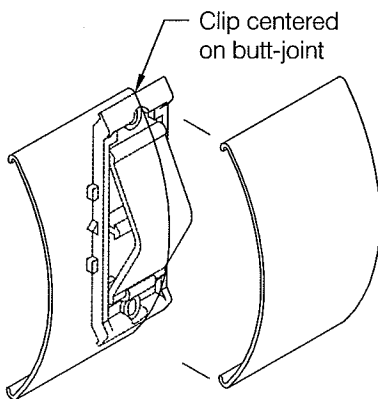

fig 7
- At each snap-on cover butt-joint, see **fig 7**
Step 8: Measure between accessories, including optional vertical accents where used, and cut the vinyl cover. Miter cut the cover for all special angle corners not accommodated by the molded accessories. Install a Quik Clip retainer centered at each butt-joint location, see **fig 7**.